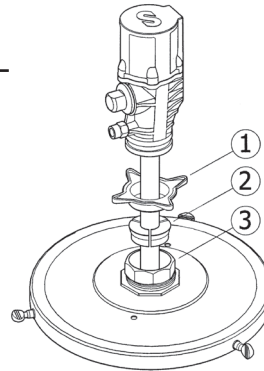

Fig. 2
These pumps must be mounted on drums using covers fitted with a 2" bung. Loose the star nut (1) of the bung adaptor to remove the inferior nut (3), and screw this into the 2" bung opening of the cover. Place the star nut (1) and the three jaws (2) on the suction tube. Introduce the pump through the opening and fasten the assemble at the desired height (fig 2).